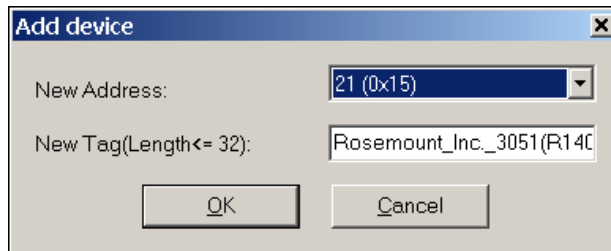

Figure 3-6. New Address and New Tag
- When a virtual device is dropped into the project window, the following window prompts the user to set the FF network address and tag of the virtual device. The NI-FBUS Offline Configurator sets the default values. You can simply use the default address and tag, for they have been checked to ensure no repetition with other offline devices. You also can fill in the desired address and device tag, then click **OK** to add this virtual device as shown in Figure 3-6.